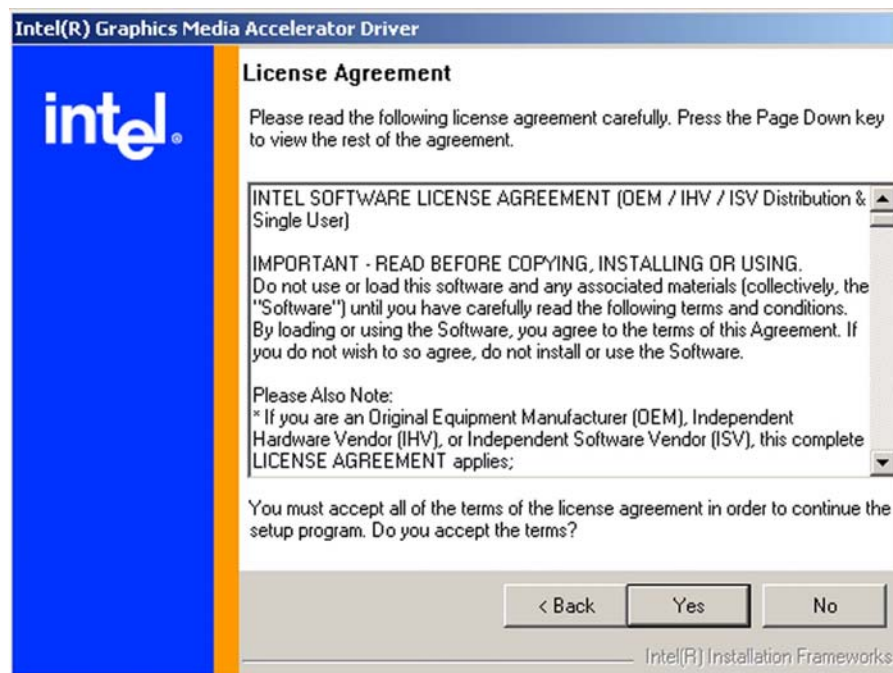

Figure 7-13: GMA Driver License Agreement
Step 10: The license agreement in **Figure 7-13** appears.
Step 11: Click the **YES** in **Figure 7-13** to continue.